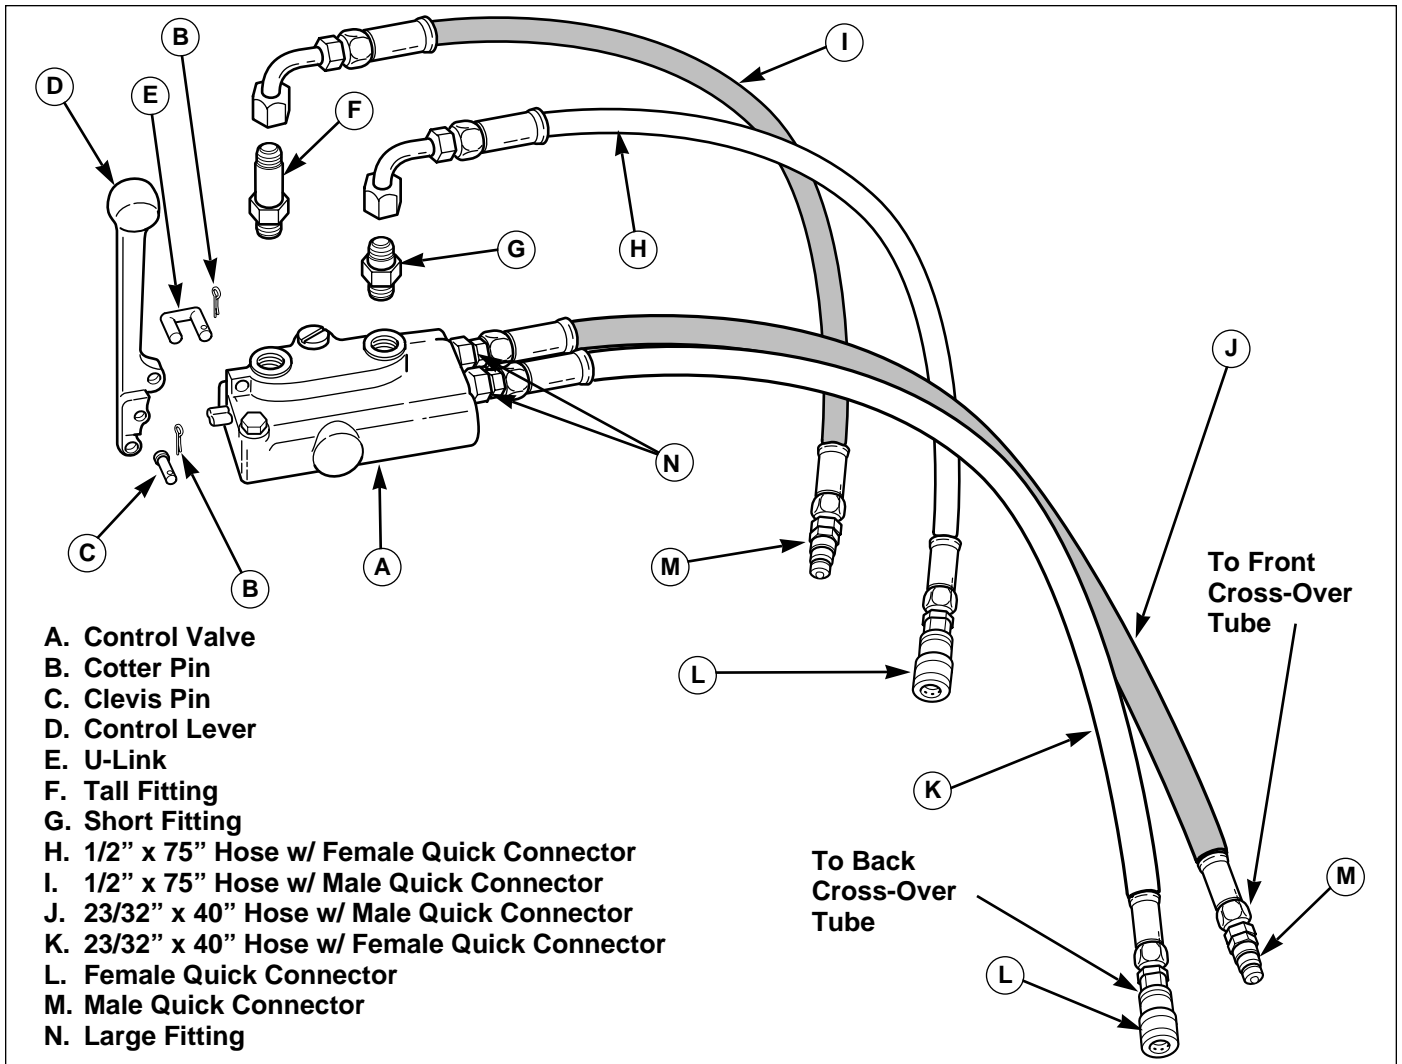

Figure 26. Assemble Control Valve
1. Locate the old single spool master valve removed from tractor (A, Figure 26).
NOTE: From this point on, the old master valve will be referred to as the control valve (A, Figure 26).
2. Install the control lever (D, Figure 26) using a small clevis pin (C), the U-link (E), and small cotter pins (B) as shown.
3. Install a tall fitting (F, Figure 26) and a short fitting (G) into the control valve (A) as shown.
4. Install a male quick connector (M, Figure 26) on one of the 1/2" x 75" long hoses (I), and connect the other end of the hose to the tall fitting (F)
5. Install a female quick connector (L, Figure 26) on the other 1/2" x 75" long hose (H) and connect it to the short fitting (G).
6. Install two large fittings (N, Figure 26) in the front of the control valve (A).
7. Install a male quick connector (M, Figure 26) on one of the 23/32" x 40" hoses (J) and a female quick connector (L) on the other 23/32" x 40" hose (K).